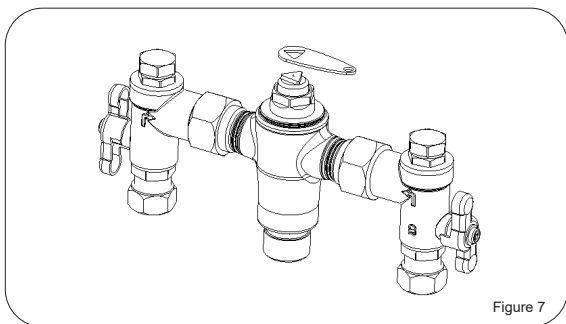

Figure 7
2. Fit the supplied key over the adjusting spindle (Figure 7)